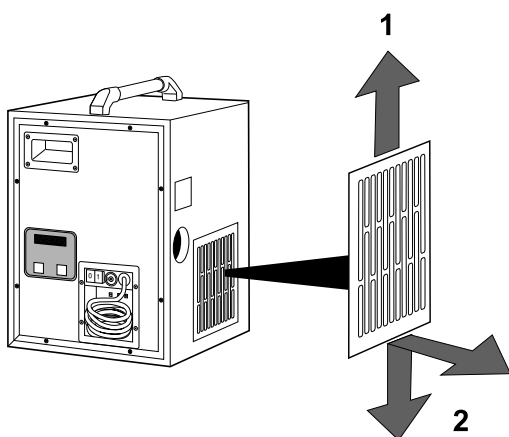

Figure 6.1 Filter removal
1. To remove the filter, slide the filter grating upwards, then downwards and out according to *Figure 6.1*.